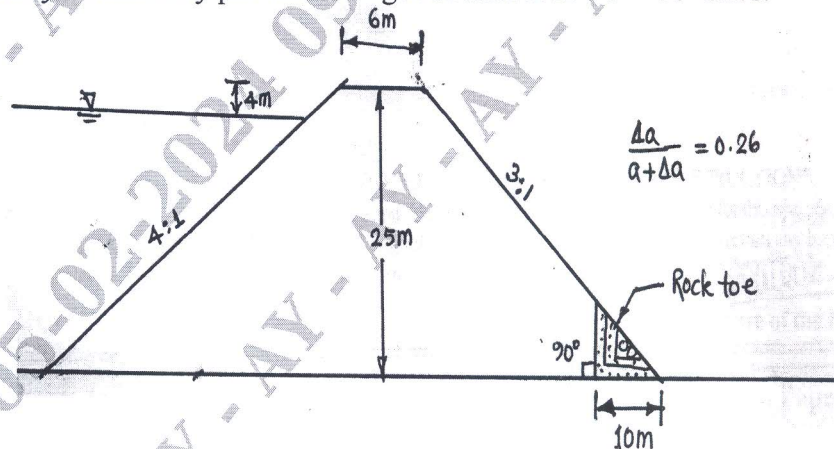

Fig Q3(b)
- Draw the phreatic line for the homogeneous dam section shown in Fig Q3(b) and find the seepage quantity in liters/day per meter length of dam if $K = 5 \times 10^{-4}\text{cm/s}$. (12 Marks)